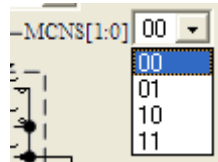

Figure 56
- (1) Click mouse left key to the network name, MCNS, to select the network
- (2) Click mouse left key to the network switch, MCNS, to select the network
- (3) Click mouse left key, window like Figure 56 shows up, then user can select the switch network